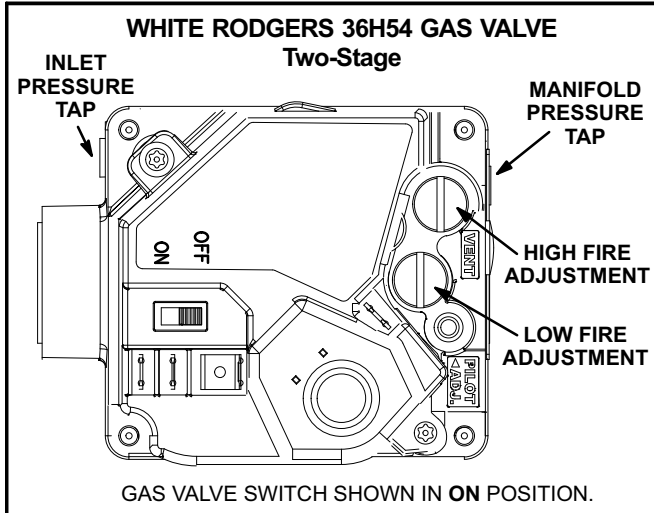
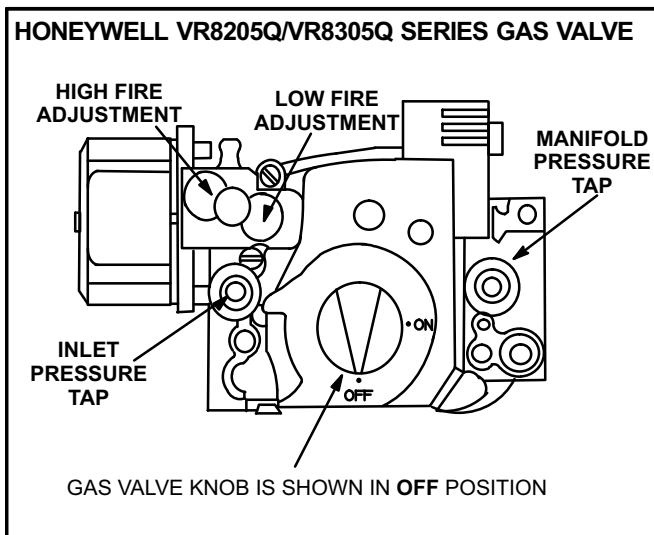

FIGURE 1
FIGURE 2
Gas Valve Operation for White Rodgers 36H54 and Honeywell VR8205Q/VR8305Q (figure 1 and 2)
- 5- Turn gas valve switch to **OFF**. See figure 1. On Honeywell VR8305Q gas valves, turn knob on gas valve clockwise  to **OFF**. Do not force. See figure 2.
- 6- Wait five (5) minutes to clear out any gas. If you then smell gas, **STOP!** Immediately call your gas supplier from a neighbor's phone. Follow the gas supplier's instructions. If you do not smell gas, go to the next step.
- 7- Turn gas valve switch to **ON**. See figure 1. On Honeywell VR8305Q gas valves, turn the knob on the gas valve counterclockwise  to "**ON**". Do not force. See figure 2.
Manifold pressures are shown in table 1. Refer to figures 1 and 2 to locate pressure ports.